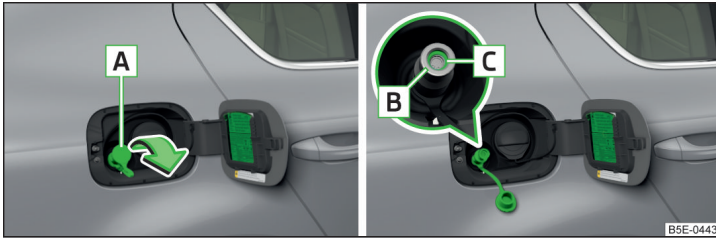

Fig. 312 Natural gas filler tubes
- Remove cap **A** » Fig. 312 in the direction of the arrow and insert connector for the refuelling system into filler neck **B**.
- Check that sealing ring **C** » Fig. 312 has remained inserted in filler neck **B**. If the sealing ring has slipped on the connector, reinsert it into the filler neck.